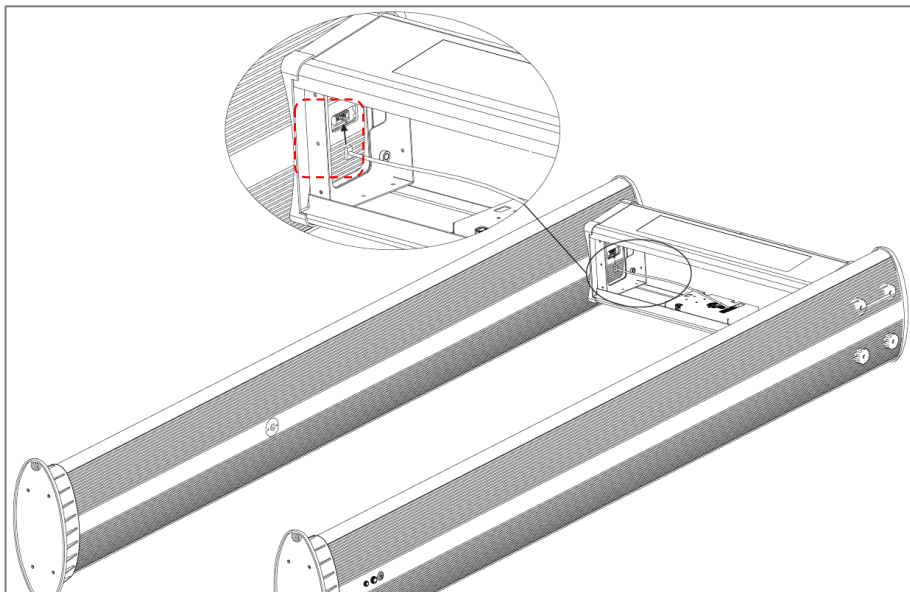

Figure 3-4
**Step 4:** Connect the two signal line to the left and right door panels respectively, as shown in figure 3-4 below.